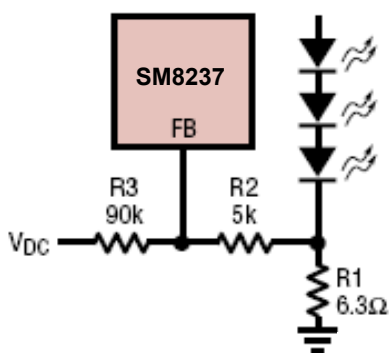
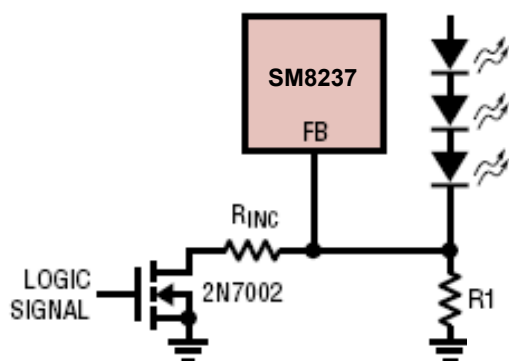
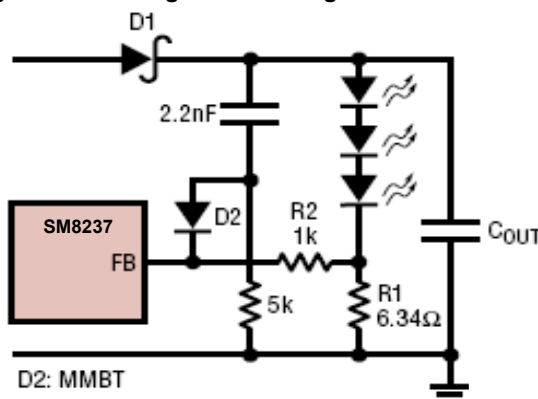

Figure 3 Dimming control using a DC voltage
Figure 5. Dimming control using a logic signal
Figure 6. Recommended soft-start circuit
For some applications. The preferred method of brightness control is a variable DC voltage to adjust the LED current. The dimming control using a DC voltage is shown in figure 5. As the DC voltage increases, the voltage drop on R2 increases and the voltage drop on R1 decreases. Thus, the LED current decreases. The selection of R2 and R3 will make the current from the variable DC source much smaller than the LED current and much larger than the FB pin bias current. For V_{DC} range from 0V to 2V, the selection of resistors in figure 3 gives dimming control of LED current from 0mA to 15mA.
The filtered PWM signal can be considered as an adjustable DC voltage. It can be used to replace the variable DC voltage source in dimming control. The circuit is shown in figure 6.
For applications that need to adjust the LED current in discrete steps, a logic signal can be used as shown in figure 5. R1 sets the minimum LED current (when the NMOS is off). R_{INC} sets how much the LED current increases when the NMOS is turned on. The selection of R1 and R_{INC} follows formula (1) and Table 1.
To achieve minimum start-up delay, no internal soft-start circuit is included in SM8237. When first turned on without an external soft-start circuit, inrush current is about 200mA. If soft-start is desired, the recommended circuit and the waveforms are shown in figure 6. If both soft-start and dimming are used, a 10kHz PWM signal on SHDN is not recommended. Use a lower frequency or implement dimming through the FB pin as shown in figure 3,4 or5.